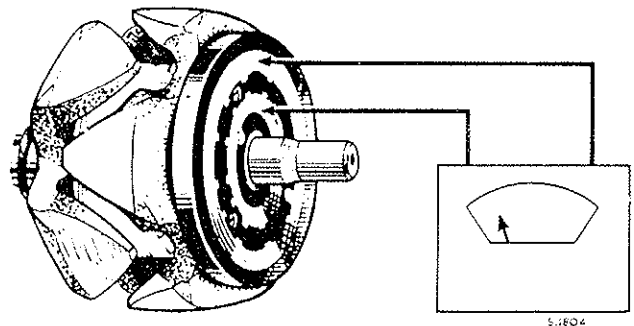
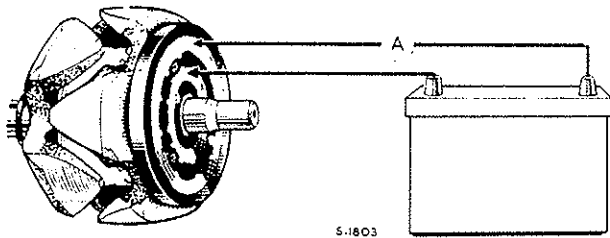

Fig. N.9. Measuring rotor winding resistance with ohmmeter
Fig. N.10. Measuring rotor winding resistance with battery and ammeter
1. Test the rotor by connecting either an ohmmeter (see Fig. N.9) or the appropriate battery supply (see Fig. N.10) between the slip-rings.